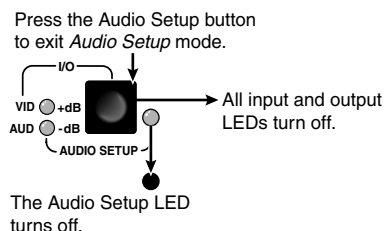

Figure 3-34 — Exit Audio Setup mode
4. Press and release the Audio Setup button (figure 3-34). All audio changes are saved.